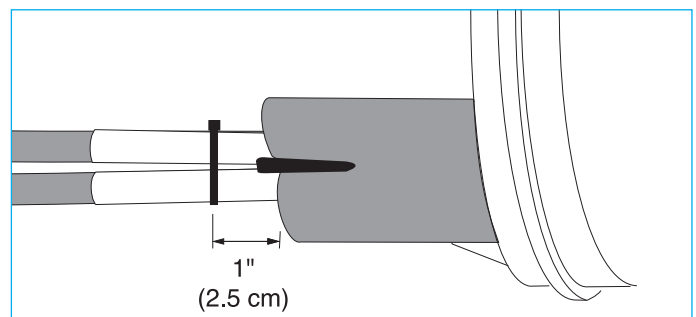

Figure 32.
- 9.4.7 Install the branch-off clip as shown. The clip's base must touch the tube. (Figure 32)